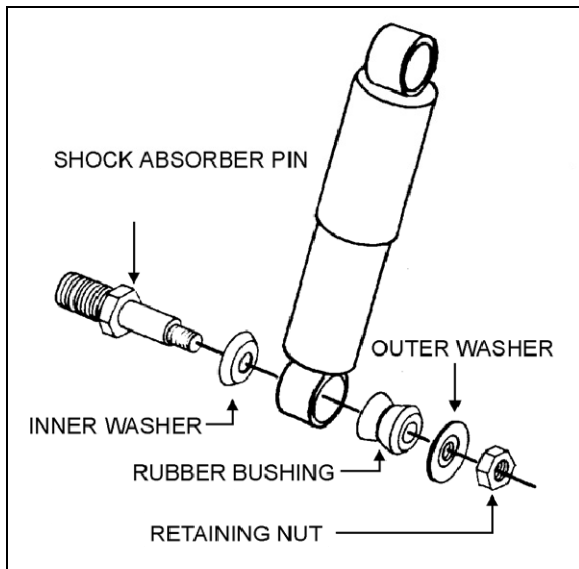

FIGURE 44: SHOCK ABSORBER 16008
1. Remove nuts and washers from shock absorbers on upper and lower mounting pins, taking care to identify the inner and outer washers to ease reinstallation. Refer to figure 44 for details.